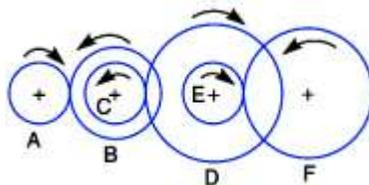

Figure 4
10. The gearing of a machine tool is shown in figure 4. The motor shaft is connected to gear A and rotates at 975 rpm. The gear wheels B, C, D and E are fixed to parallel shafts rotating together. The final gear F is connected to output shaft. What is the speed of gear F? The number of teeth on gears A to F are 20,50,25,75,26,65 respectively. CO6 [K1]